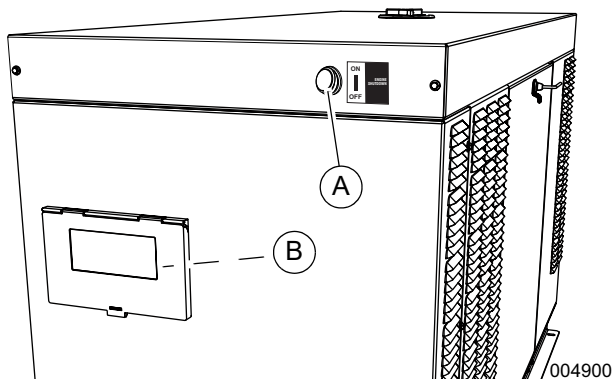

Figure 6-3. Auxiliary Shutdown Switch Locations
1. See Figure 6-3. Verify auxiliary shutdown switches (A, B) are ON (I).